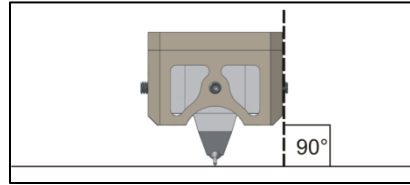

Fig. 3 Azimuth alignment (front view)
- f) Adjust the horizontal inclination (azimuth) of the cartridge so that the shell's cartridge sharp side edges and their reflection on a record surface (or by using a mirror) form straight and coincident lines or are perpendicular to the record surface. Fig.3